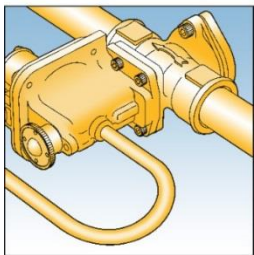

Fig. 2
5. If external impulsed unit, connect impulse pipe as per national standards. See Fig. 2.